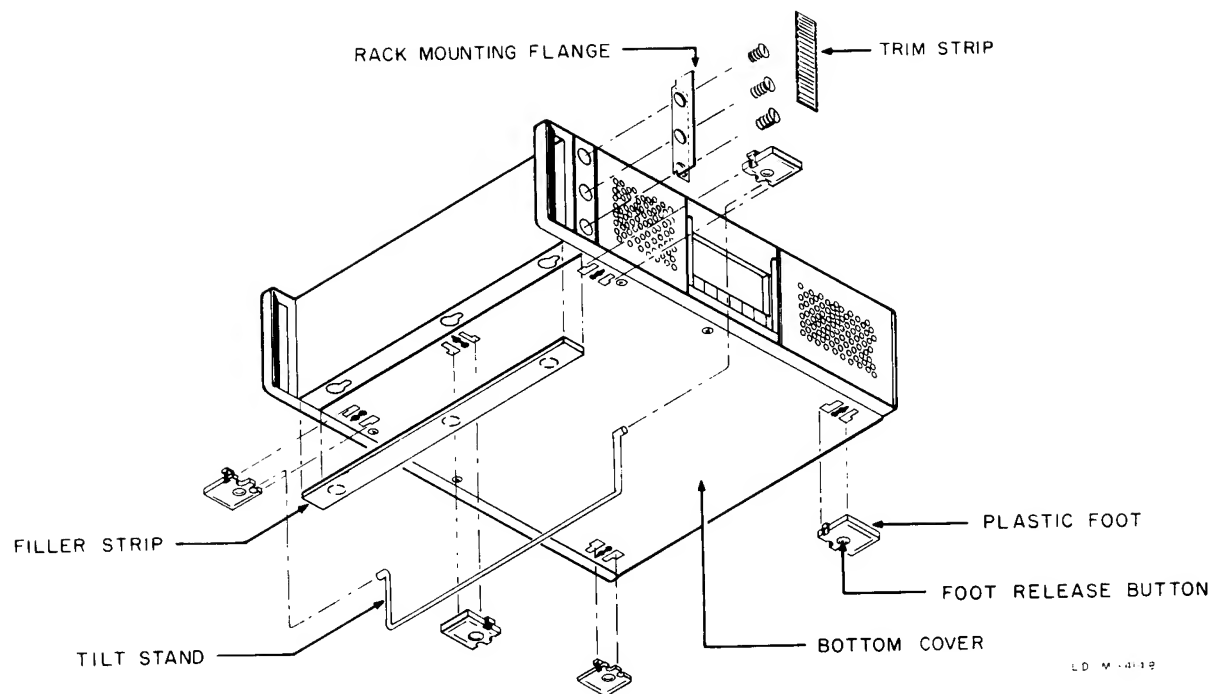

Figure 2-1. Conversion to Rack Mount
a. Remove trim strip on sides of instrument (refer to Figure 2-1).